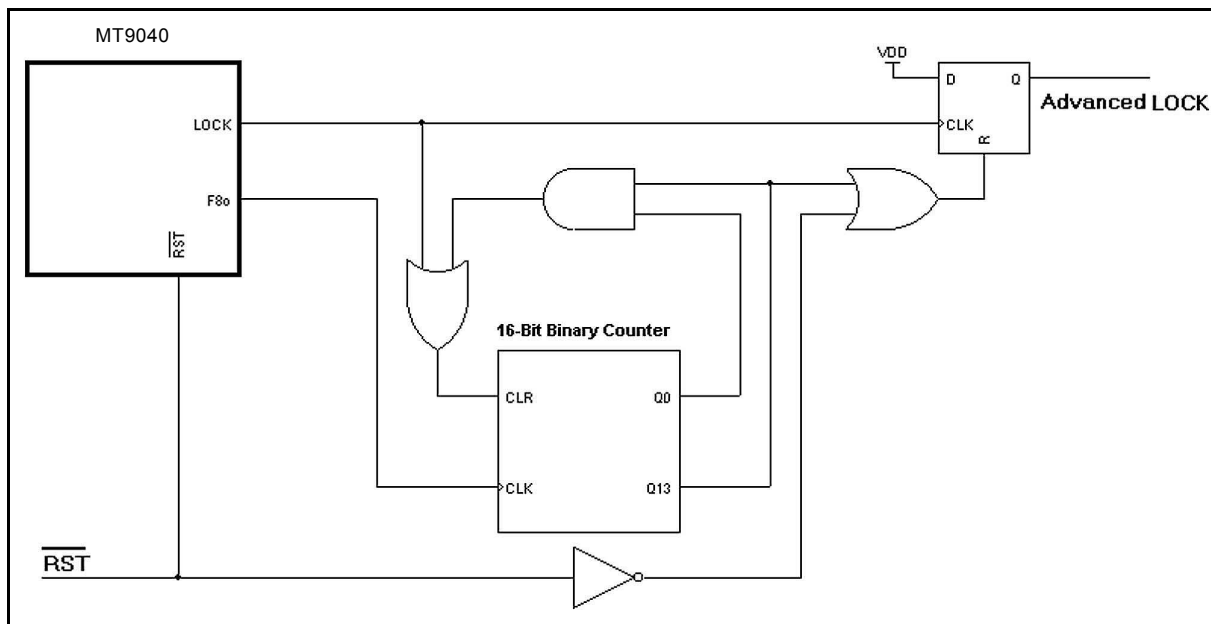

Figure 9 - Digital Lock Pin Circuit
The output clock should be connected directly (not AC coupled) to the OSCi input of the MT9040, and the OSCo output should be left open as shown in Figure 9.
A digital alternative to the RC-time-constant circuit is presented in Figure 9. The circuit in Figure 9 can be used to generate a steady lock signal. The circuit monitors the MT9040's LOCK pin, as long as it detects a positive pulse every 1.024 seconds or less, the Advanced Lock output will remain high. If no positive pulse is detected on the LOCK output within 1.024 seconds, the Advanced LOCK output will go low.
* See Figure 9.